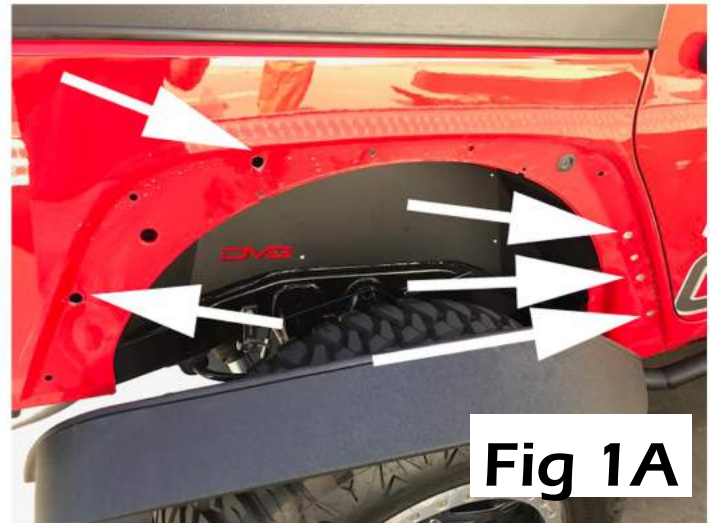

Fig 1A
Step 3: Starting with the rear fender install the nutserts into the holes shown in figure 1A